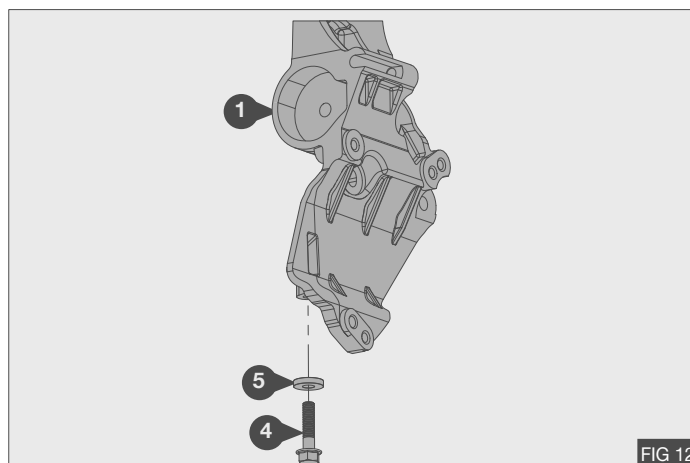

FIG 12
- Torque bolts (w) to 45 Nm / 33 lb ft – Fig 11, Torque bolt (5) to 25 Nm / 18.4 lb ft – Fig 12